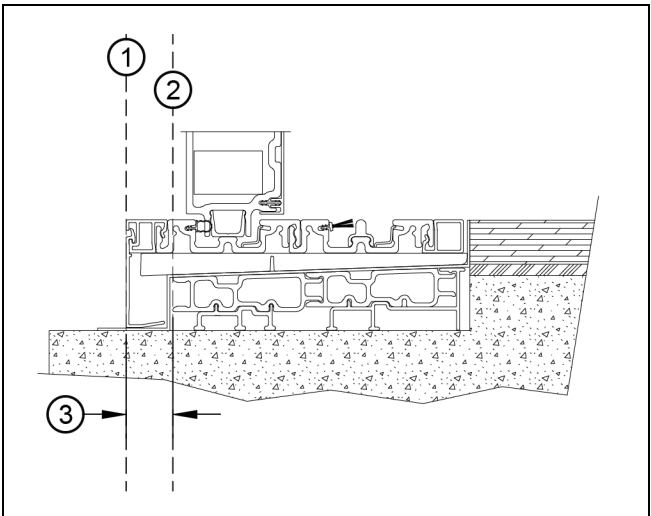
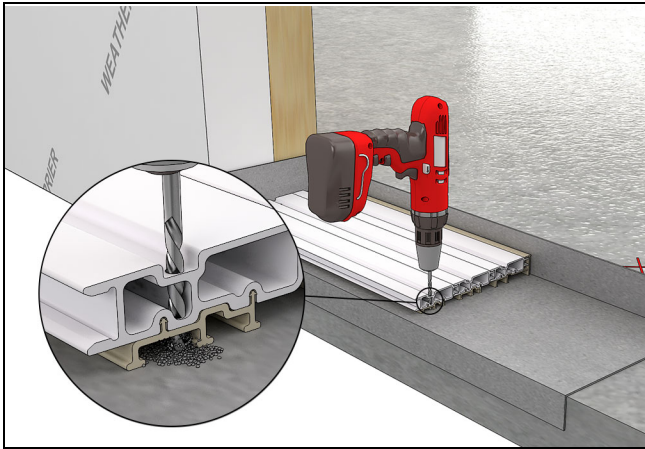

Figure 5
Figure 6
2. Set the sill slope in the slot at the desired location. Using the pre-drilled holes in the sill slope as a guide, drill through both walls of the sill slope and into the optional pre-panning and substrate. See Figure 5 and Figure 6.